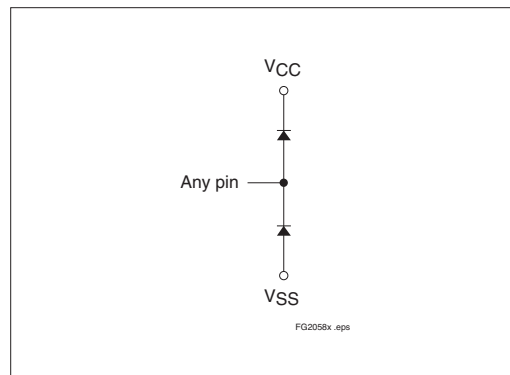

Figure 4. Internal Protection Diodes
2. Internal protection diodes are in place on every pin relative to V_{CC} and V_{SS} . See Figure 4.